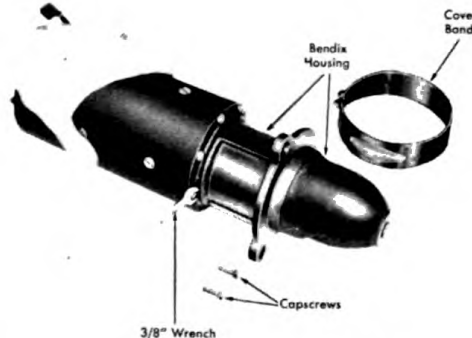
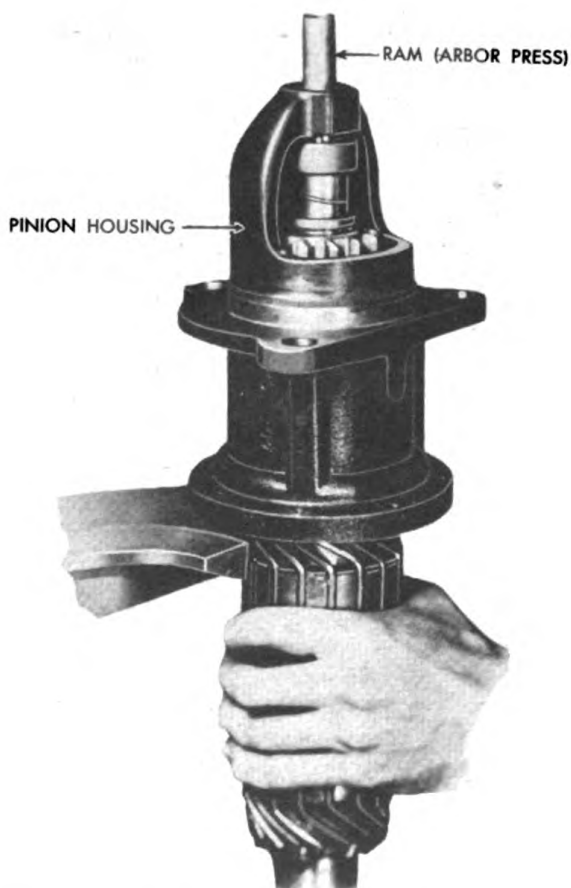
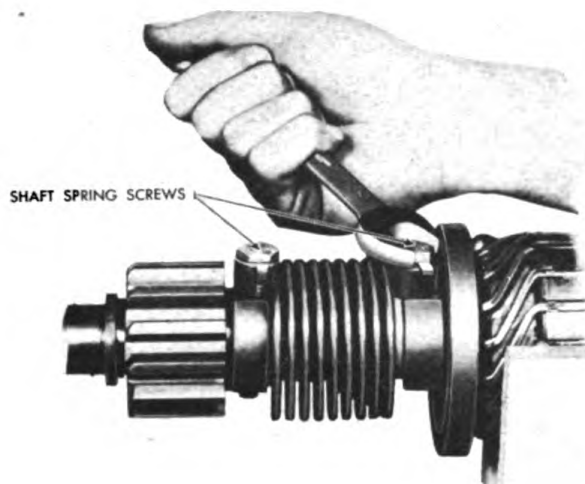

Figure 198. Removing Pinion Housing Screw.
Figure 199. Pressing Armature Shaft out of Pinion Housing.
Figure 200. Removing Bendix Shaft Screw.
See Figure 198. Press the armature out of the pinion housing with an arbor press as shown in Figure 199. Loosen the Bendix shaft spring screw as shown in Figure 200 and slide the Bendix off the shaft. See Figure 201.
F. Clean the pinion housing and soak the bearings in medium oil. Assemble the housing on the motor and fasten to the holding screws. See Figure 198.
E. Press the armature out of the pinion housing with an arbor press as shown in Figure 199.
Bendix shaft spring screw and slide the Bendix assembly off the shaft. See Figure 200.
D. Assemble the armature and pinion housing on the frame and field and fasten with the holding screws. Tighten the screws securely with lockwashers on all screws. See Figure 198.